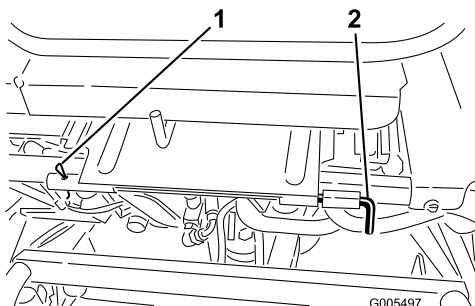

Figure 34
3. Lower the seat and remove the cotter pin securing the seat pivot rod to the frame (Figure 34).